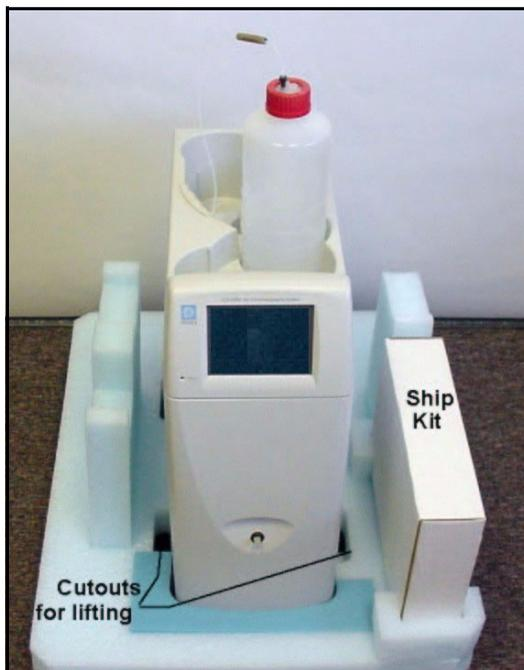

Figure 3. ICS-1500 with Ship Kit
3. Remove the next layer of foam and remove the Ship Kit box (see Figure 3).
4. The bottom foam layer has two cutouts on either side of the ICS-1500 module; use these as hand holds when lifting the module (see Figure 3).